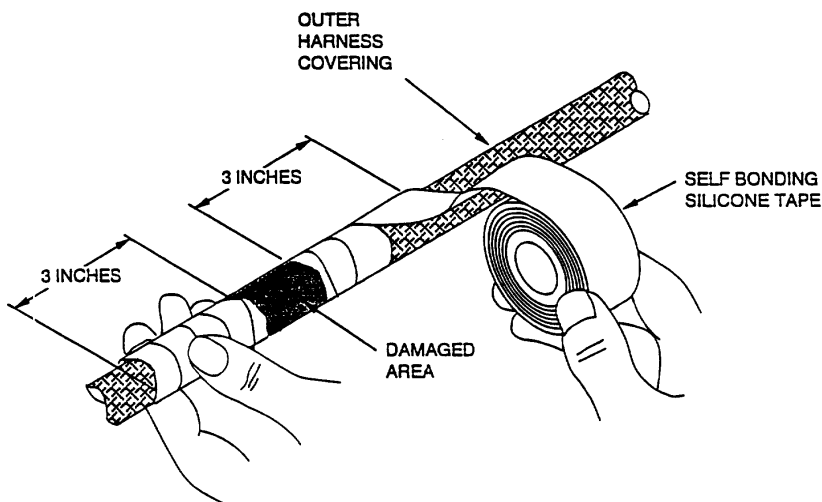

Figure 31. Overbraid Repair
- l. Using self-bonding silicone tape, beginning 3 inches on either side of damage and extending 3 inches beyond damage, wrap tape around harness, overlapping each wrap 50 percent (Figure 31).